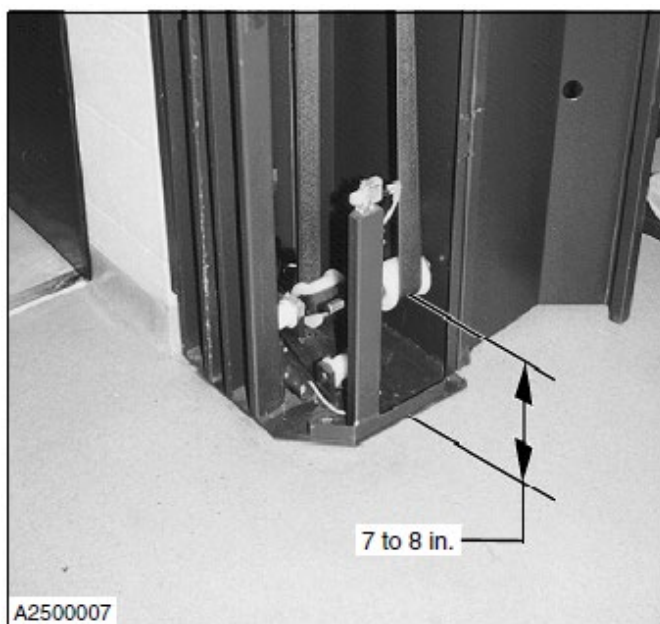

Figure 58
5. Raise and block the front H-bracket roller approximately 7 to 8 in. off the bottom of the side column. (See Figure 58)
8. Pull the tension strap through the end bracket strap clamps, as required, to position the front H-bracket roller as shown in Figure 58.